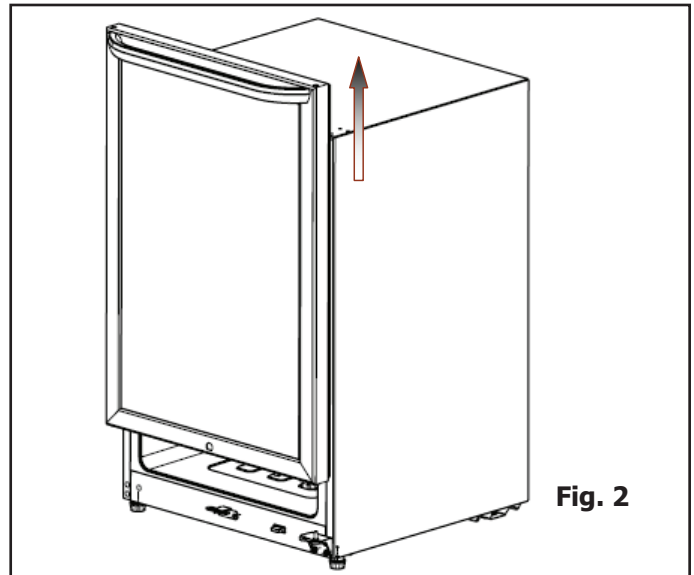

Fig. 2
2. Carefully remove top hinge (See Fig. 1.), then lift the door up off of bottom hinge and place it on a padded surface to prevent scratching it. See Fig. 2.